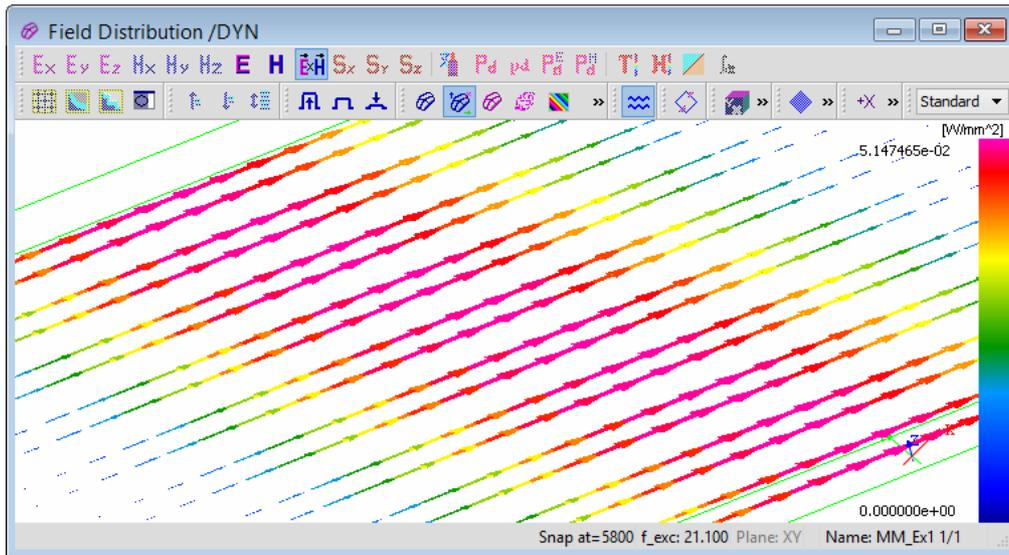

Figure 8 *View-Fields* windows with vector display showing the Poynting vector
Ex2.15. Here, we also encourage you to press *View-Fields* icon () once again. The vector display for Poynting vector, as in Figure 8 will appear. Compare the direction of arrowheads (the energy flow direction) and the direction of arrows motion. You are also free to watch the distribution of the total electric (E) and magnetic (H) fields.